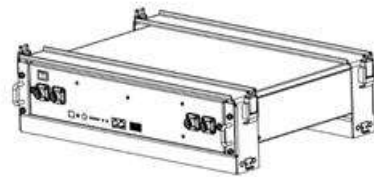

Figure3-5
1. Place the B4850 and brackets as shown in the figure3-5, and insert the B4850 into the brackets. Use 4 screws to fix the module on the front bracket.